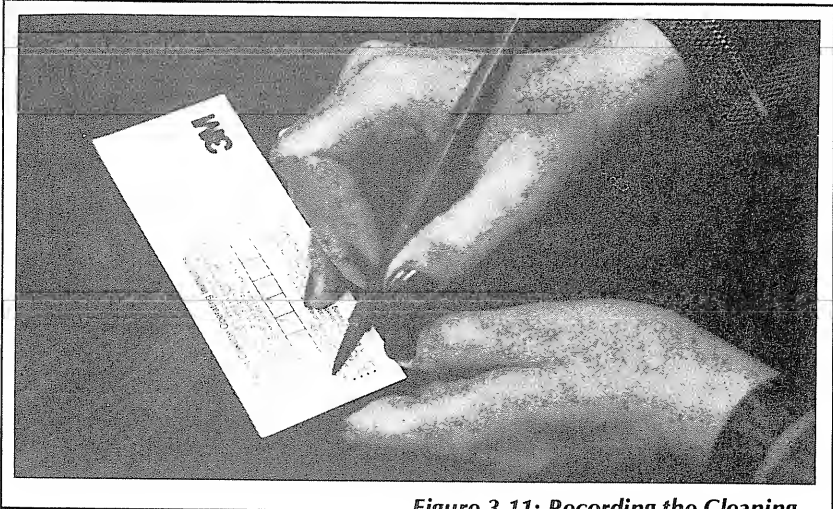

Figure 3.11: Recording the Cleaning
Step 3: After 30 to 50 seconds, remove the diskette and make a note on the diskette that it has been used. Typically, each diskette may be used up to 15 times (see Figure 3.11).